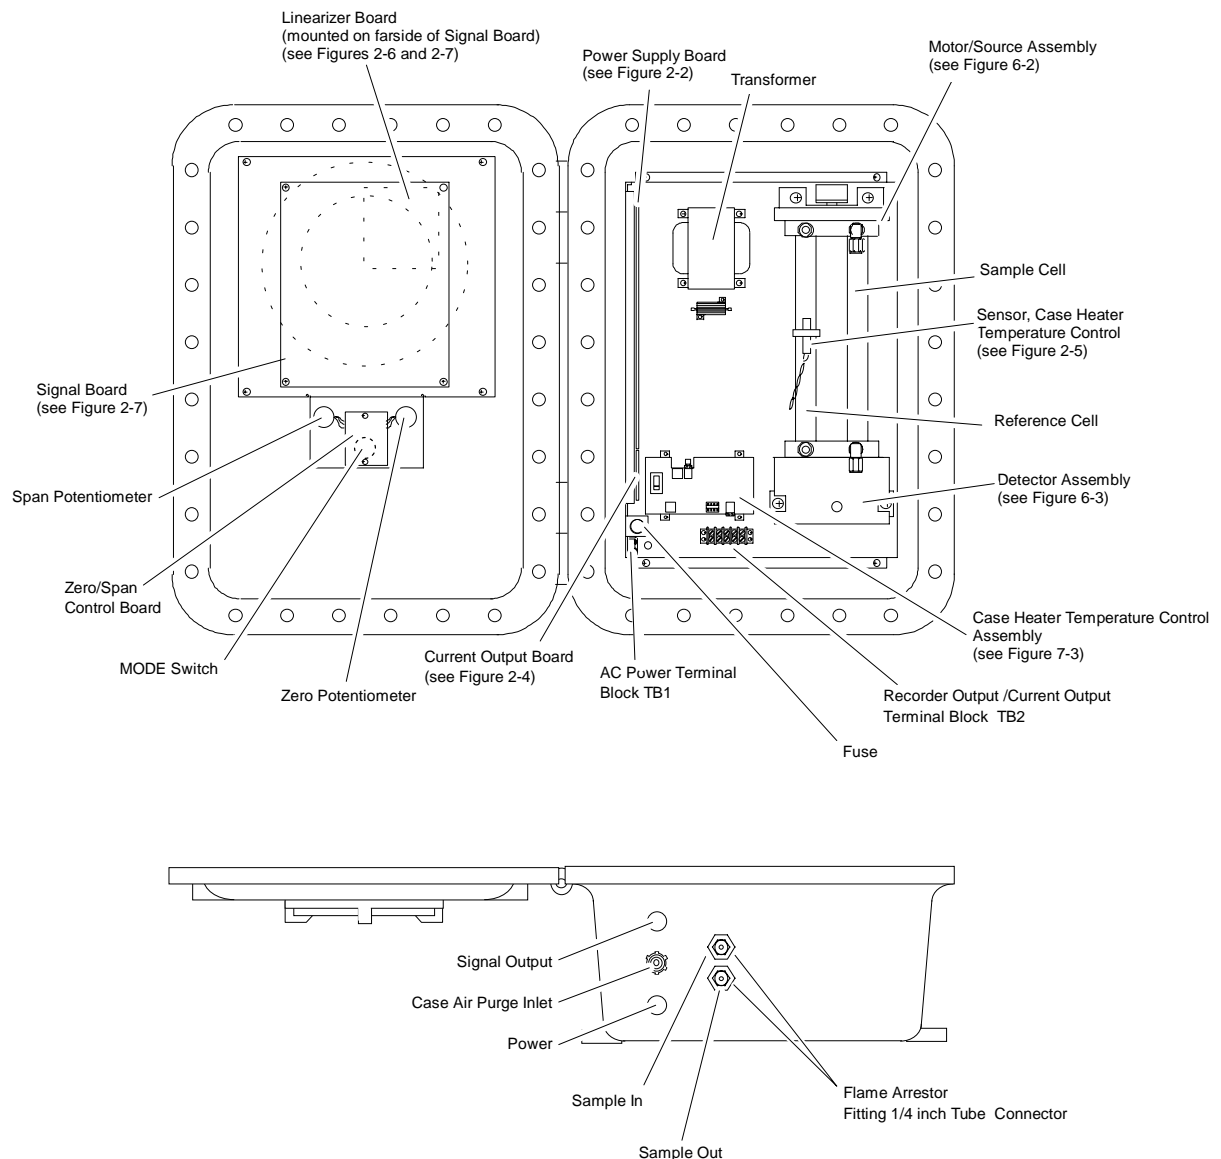

FIGURE 2-1. MODEL 815 COMPONENT LOCATIONS
Refer to Figures 2-1 and 2-5, Installation Drawing 652258 and Pictorial Wiring Diagram 652559.
Refer to Figure 2-1 and 2-5, Installation Drawing 652258 and Pictorial Wiring Diagram 652559.
Refer to Figure 2-1 and Installation Drawing 652258. Connect sample gas tubing to the Model 815 through the 1/4-inch ferrule type compression fittings located on the bottom of the enclosure.
Refer to Figure 2-1 and Installation Drawing 652258.
Refer to Figures 2-1, 2-2, 2-4, 2-5, Pictorial Wiring Diagram 652259 and installation Drawing 652258.
Refer to Figures 2-1, 2-2, 2-3, 2-5, 7-3 and Pictorial Wiring Diagram 652259.
2. Attach the sensor (at T.I.F. 2-position terminal block) to the reference cell with a tie wrap as shown in Figure 2-1.
Refer to Figures 2-1, 2-6, 2-7 and Pictorial Wiring Diagram 656659